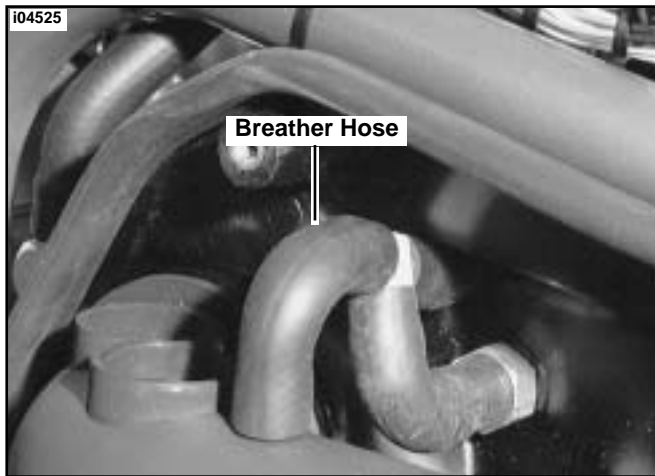

Figure 4. Detach Snorkel Breather (All)
5. See Figure 4. Detach breather hose from snorkel.
- Refer to Figure 4. Attach snorkel breather hose to snorkel.